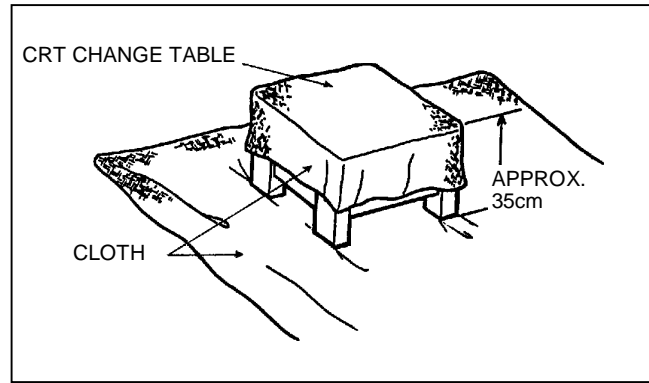

Fig. 3
1. Putting the CRT change table on soft cloth, the CRT change table should also be covered with such soft cloth (shown in Fig.3).
2. While keeping the surface of CRT down, mount the TV set on the CRT change table balanced will as shown in Fig.3.